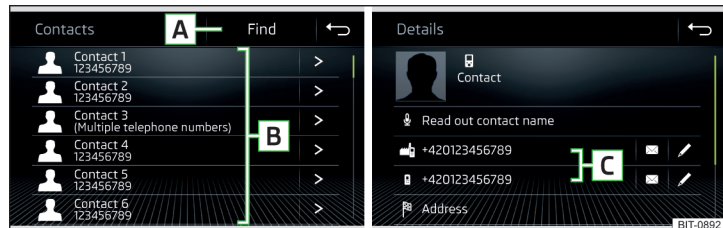
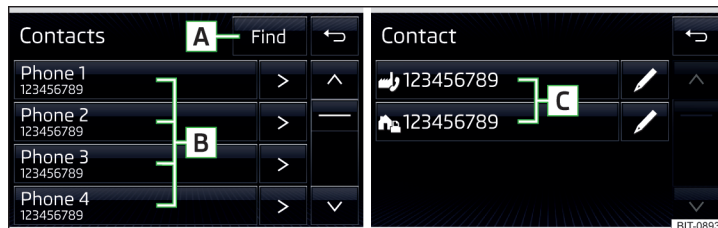

Fig. 165 Amundsen, Bolero: List of telephone contacts/contact details
Fig. 166 Swing: List of telephone contacts/contact details
- In the main *Telephone* menu, tap the function surface ☞ to display a list of telephone contacts » Fig. 165 or » Fig. 166.